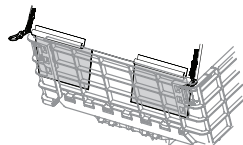

Figure 14
- IMPORTANT:** Be certain plastic panels on bottom of mesh cover are located inside walls of cart, as shown in Figure 14.